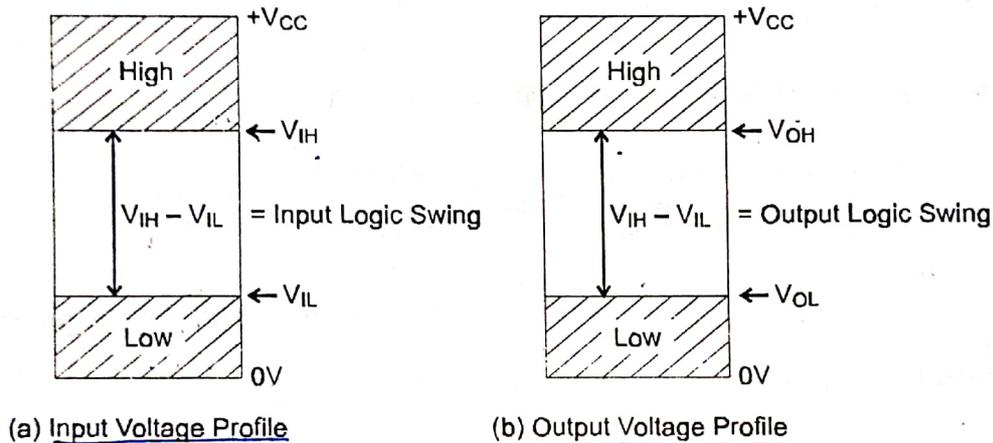

Fig. 10.29 Illustration of Voltage Profiles
- **Input and Output Voltages** various input and output voltage levels are shown in Fig. 10.29.